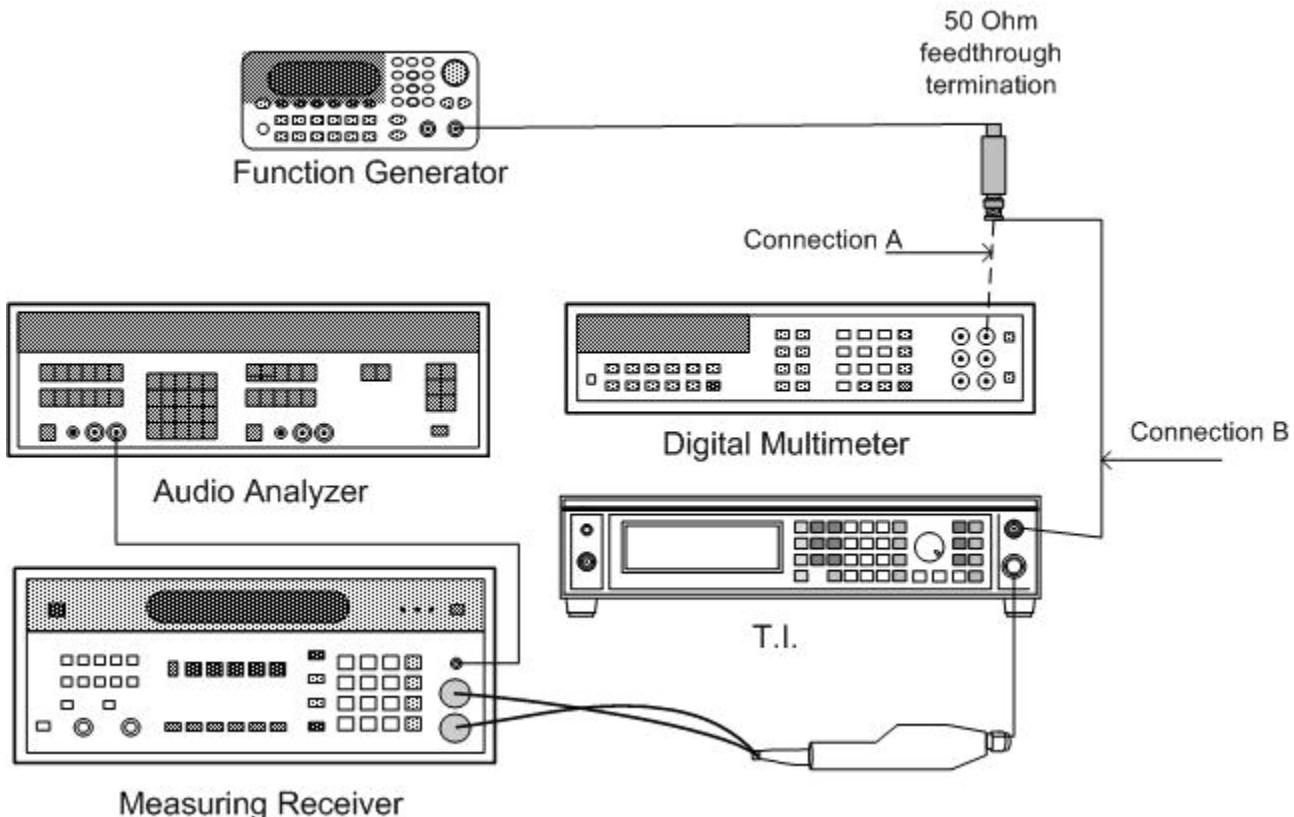

Figure 1. Modulation accuracy hookup.
- (1) Connect test equipment as shown in figure 1, Connection A.
- (2) Use multimeter to set the function generator for 1.00 V RMS, 1 kHz sine wave output.
- (3) Connect test equipment as shown in figure 1, Connection B.
- (4) Press TI keys as listed in (a) through (j) below:
- (7) Connect test equipment as shown in figure 1, Connection A.
- (8) Use multimeter to set the function generator for 0.75 V RMS, 1 kHz sine wave output.
- (9) Connect test equipment as shown in figure 1 ,Connection B.
- (10) Press the TI keys as listed in (a) through (j) below:
- (11) Measure FM deviation using measuring receiver. Measuring receiver will indicate between 9.5 kHz and 10.5 kHz FM deviation (de-select relative mode from previous measurement if necessary). Set a 0.00 dB reference on measuring receiver by pressing **RATIO**. Use **LOG/LIN** as necessary to select dB.
- (12) Set function generator to remaining frequencies listed in table 7. Measuring receiver will indicate within limits specified in table 7. If indications are not within limits specified in table 7, perform **b** below.
- (13) Connect test equipment as shown in Figure 1 Connection A.
(14) Use multimeter to set the function generator for 1.25 V RMS, 1 kHz sine wave output and repeat (9), (11) and (12) above using table 8.